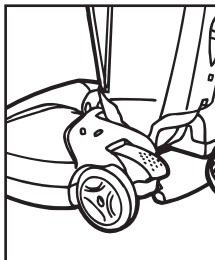

Fig.3/15
1. Disconnect cleaner from electrical outlet. Place cleaner handle in upright and locked position. Fig. 3/14.